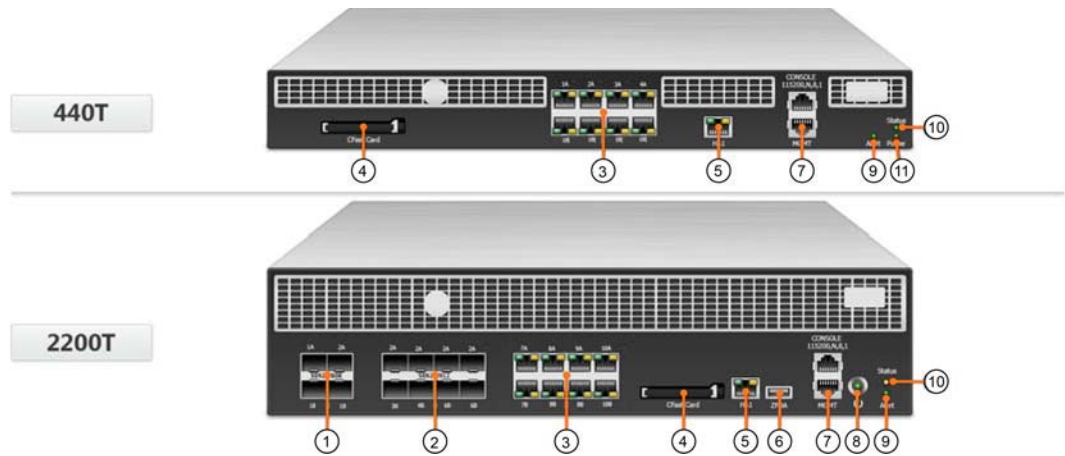

Figure 1 TippingPoint Threat Protection System security devices – front panel
2. Prior to booting up for the first time, insert the card into its slot (4 in Figure 1).
1. Connect one end of the Category 5 Ethernet cable to the Management port (the bottom port of 7 in Figure 1) on the front panel.